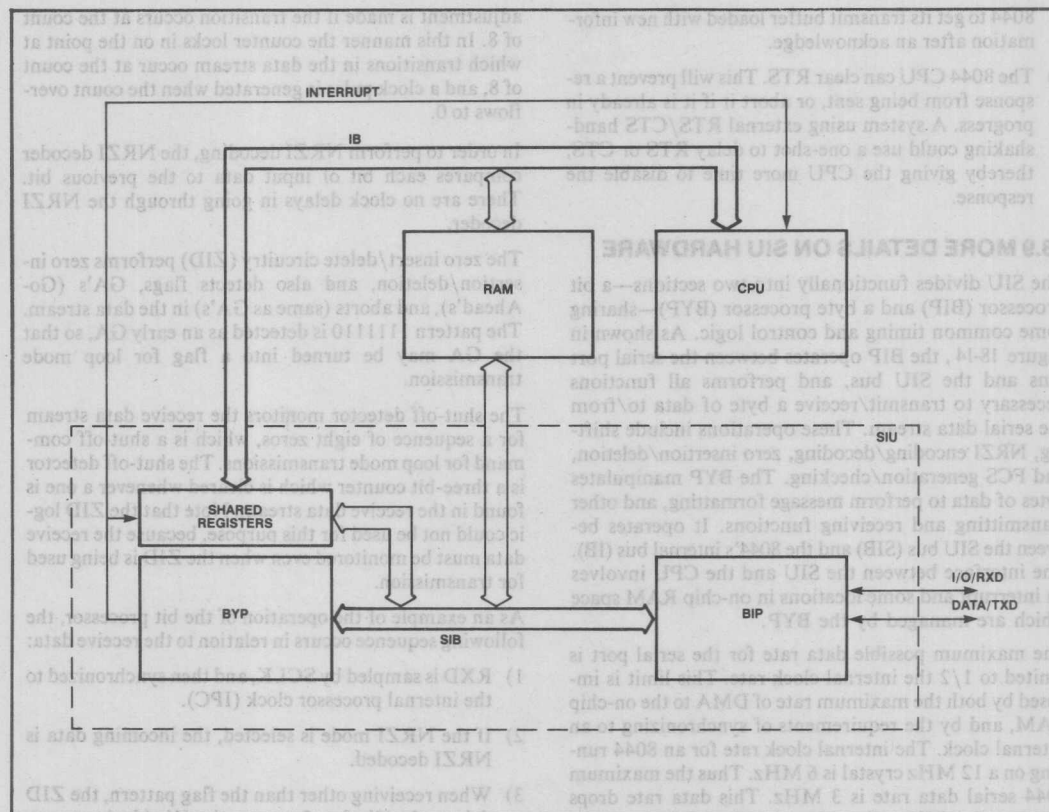

Figure 18-14. The Bit and Byte Processors
The SIU divides functionally into two sections—a bit processor (BIP) and a byte processor (BYP)—sharing some common timing and control logic. As shown in Figure 18-14, the BIP operates between the serial port pins and the SIU bus, and performs all functions necessary to transmit/receive a byte of data to/from the serial data stream. These operations include shifting, NRZI encoding/decoding, zero insertion/deletion, and FCS generation/checking. The BYP manipulates bytes of data to perform message formatting, and other transmitting and receiving functions. It operates between the SIU bus (SIB) and the 8044's internal bus (IB). The interface between the SIU and the CPU involves an interrupt and some locations in on-chip RAM space which are managed by the BYP.